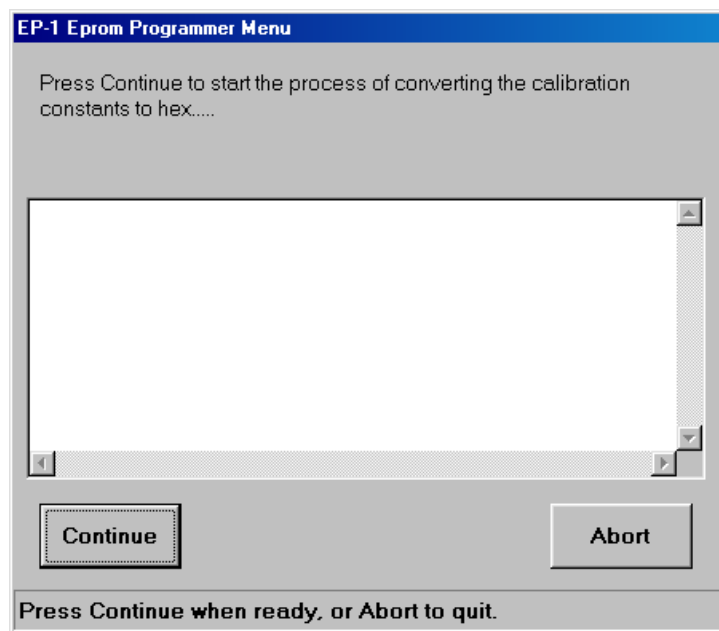

Figure 2–22. The EP-1 Eprom Programmer Menu
11. You have indicated that you wish to burn an EPROM using the EP-1 programmer. The **EP-1 Eprom Programmer Menu** (see Figure 2–22) is displayed on the computer. Click the **<Continue>** button.